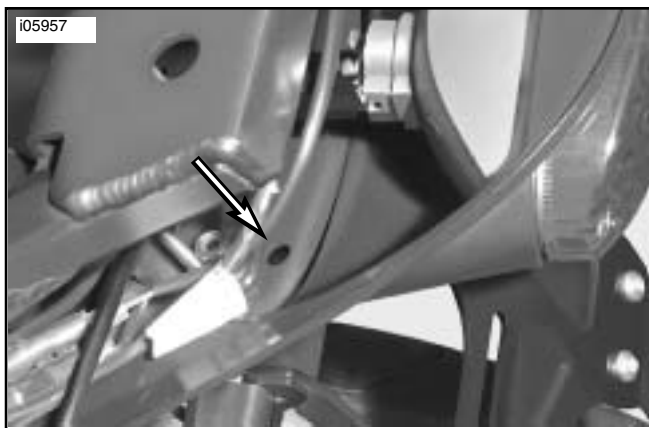

Figure 5. Wire Routing Hole Location (Firebolt)
4. See Figure 5. Using a 3/8-inch drill bit, drill a hole for wire routing through the lower tail body work as shown.